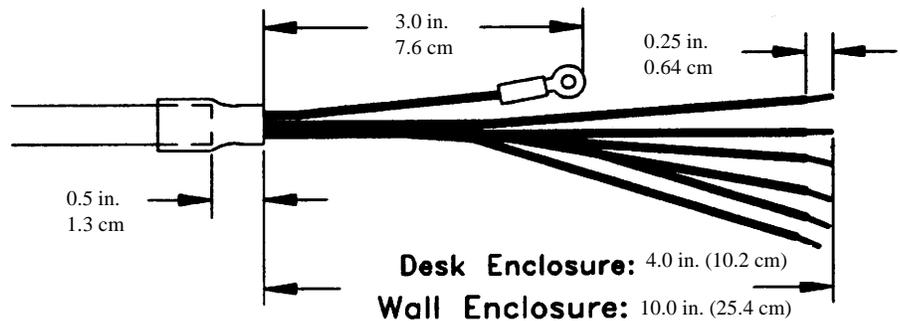

Figure 2-1 Load Cell Cable Preparation
1. Prepare the 8525 end of the load cell cable as shown below in Figure 2-1. Strip the cable jacket and shield back 4 in. (10.2 cm) for the desk enclosure or 10 in. (25.4 cm) for the wall enclosure.